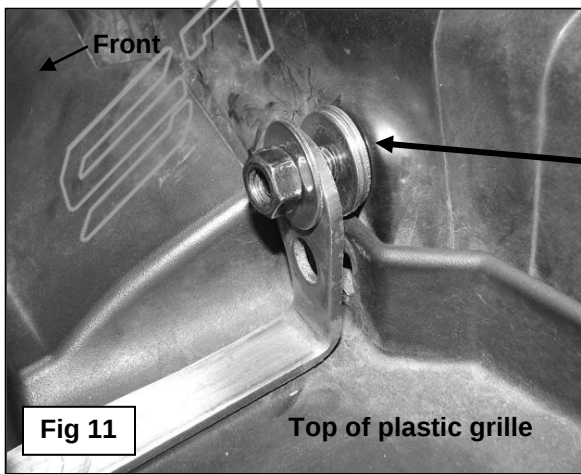

Fig 11
hole, **(Figures 9 & 10)**. **NOTE:** The back of the crossmember may be obstructed. Carefully move the coolant tank or air intake if necessary to access the back of the crossmember. Use (2-3) 8mm x 16mm Flat Washers on the "Z" Bolt Plate as a spacer between the crossmember and the Top Bracket, **(Figure 11)**. **NOTE:** It may be necessary to push down slightly on the top of the plastic grille to provide clearance for the Spacer Washers. Secure the Top Bracket to the 8mm Bolt Plate using (1) 8mm x 16mm Flat Washer, (1) 8mm Lock Washer and (1) 8mm Hex Nut, **(Figure 11)**. Insert the factory screw through the hole in the Top Bracket, **(Figure 12)**. Leave hardware loose at this time. Repeat this Step for passenger side installation.